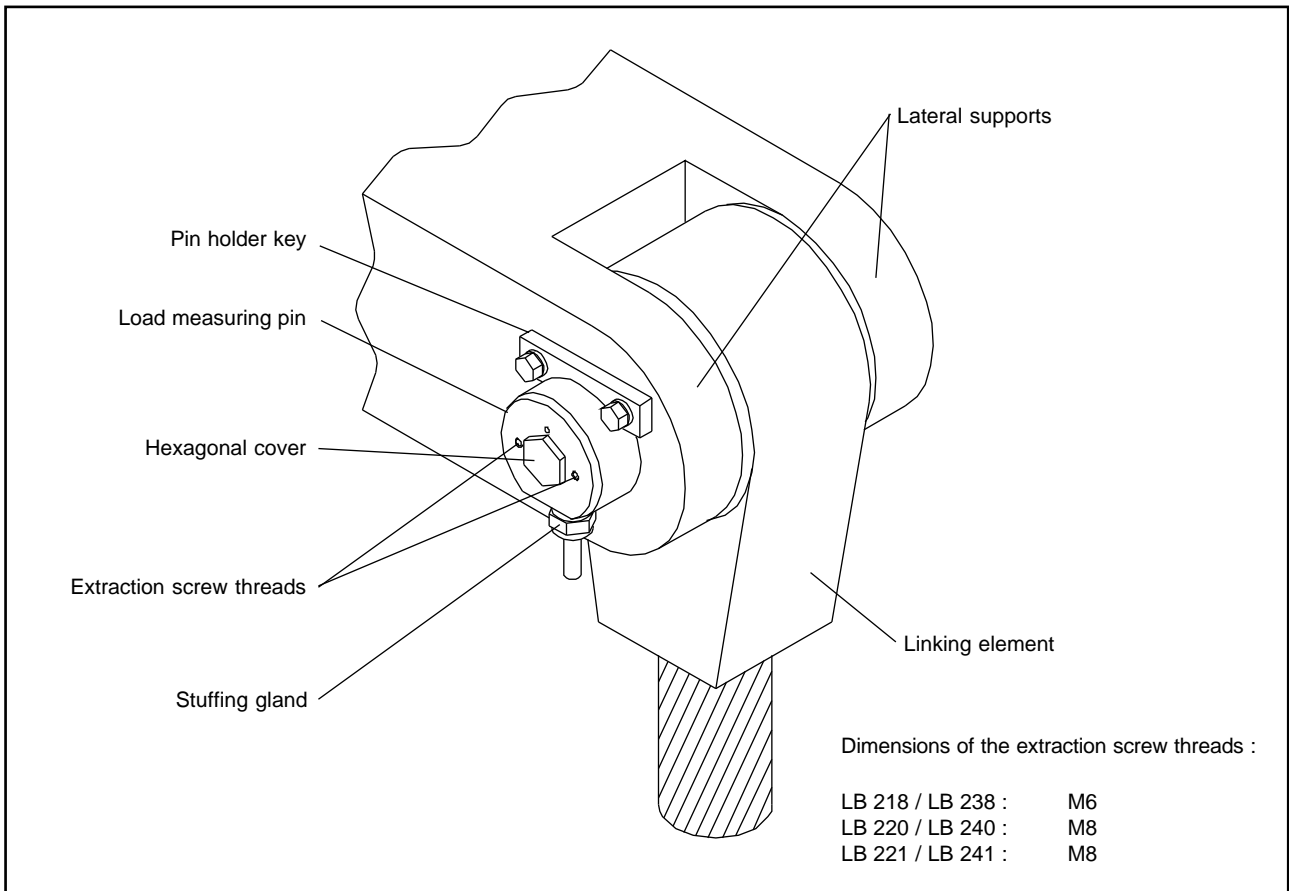
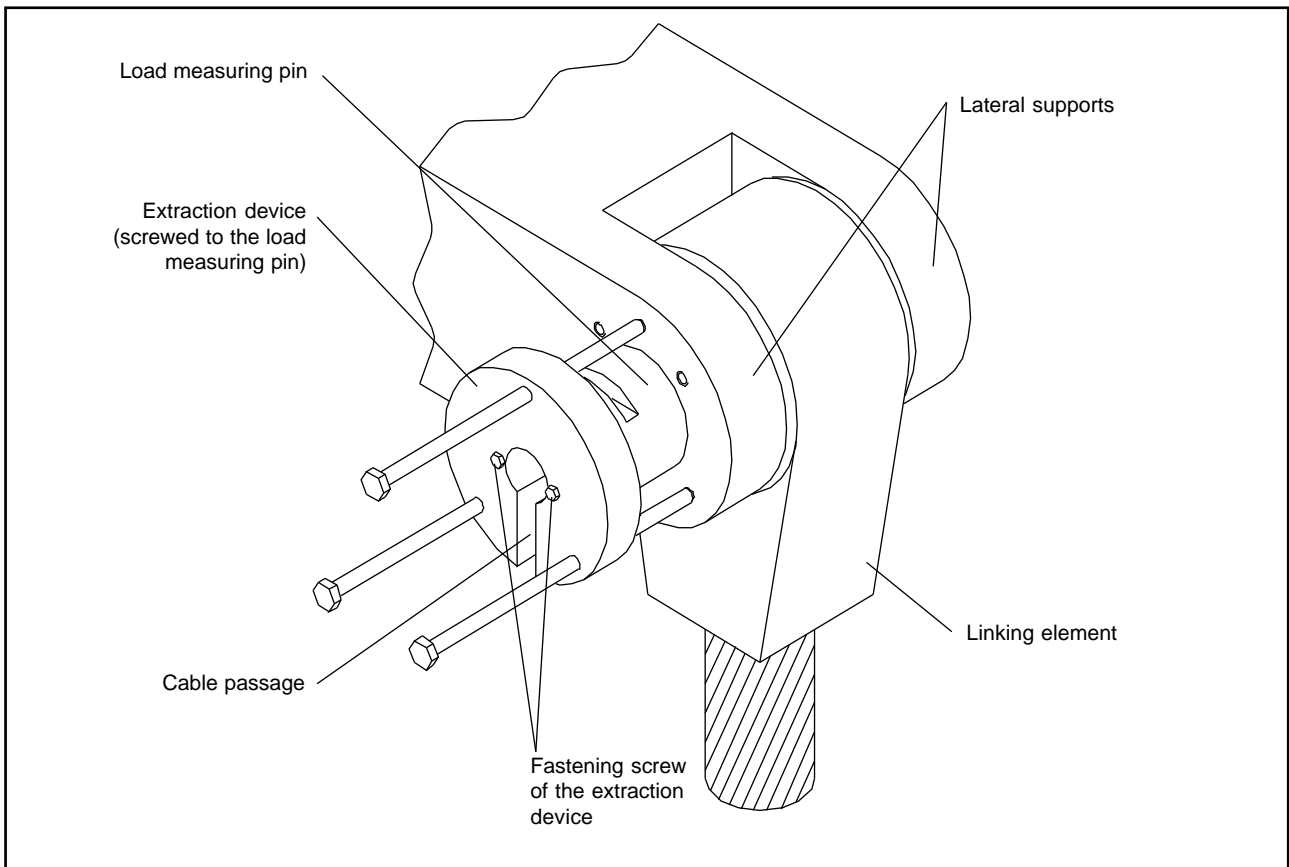

Fig. 4-6 : Mounted load measuring pin.
Fig. 4-7 : Pulling out the load measuring pin by means of an extraction device (principle).
- 8) Place the two fastening screws, fitted with their washers, into the holes of the pin holder key (see figure 4-6), and screw them into the previously threaded holes, applying the screwing torque specified in figure 4-3.
- Load measuring pins LB 218 to LB 221 and LB 238 to LB 241 are fitted with two extraction screw threads at each end (see figure 4-6) which ought to be used to fix the extraction device (not provided by Vibro-Meter). We recommend fixing it on the same side as the stuffing gland (series LB 210) or the electrical connector (series 230) to avoid their damage if the pin is pulled out on the opposite end (see figure 4-7).